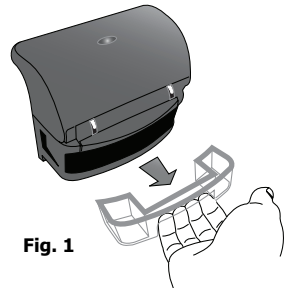

Fig. 1
1. Remove the water collector from below the lid hinge by pulling outwards [**Fig. 1**]. Discard the water collected after each use.